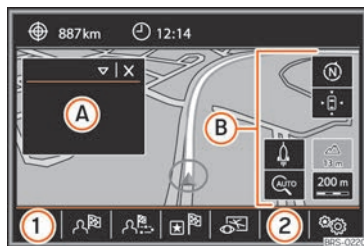

Fig. 210 Navigation main menu
- View** : To modify or activate or deactivate the split screen » Fig. 210 **A** » page 219.